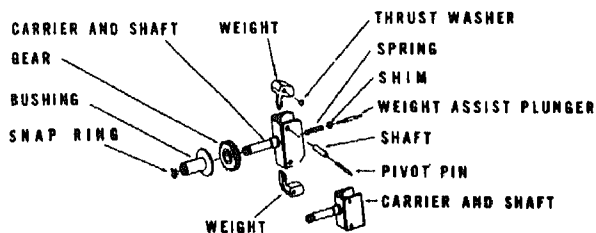

Fig. 506-4 Governor carrier weight assembly—exploded view
9. Governor assembly can be disassembled to change weights and bushing. The governor carrier and shaft can only be replaced as an assembly. If shaft is 0.388/0.392 inch O.D. or smaller and requires replacement, we recommend use of 0.515/0.519 inch O.D. shaft and carrier assembly with new bushing as replacement parts. Fig. 506-4.